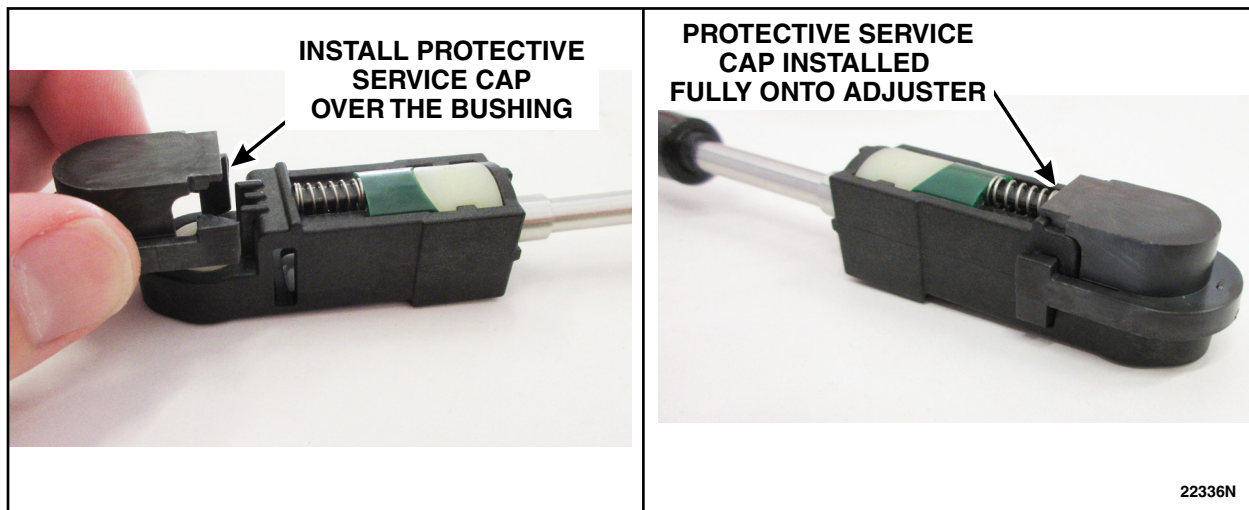

FIGURE 13
14. Install the *new* cap onto the selector lever cable adjuster. Clip one side into the adjuster body and then slide the other onto the housing until it snaps into place. The protective cap should cover the bushing and the terminal end of the adjuster. See Figure 13.